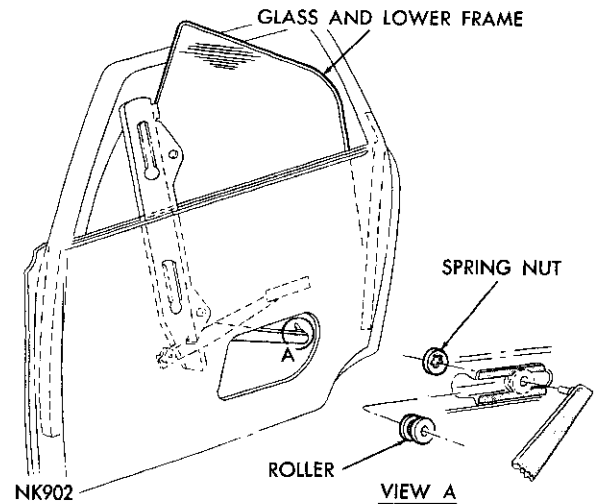

Fig. 68—Rear Door Glass Adjustment
(1) Run the window up to approximately $\frac{1}{8}$ inch below the door frame.
(2) Adjust the regulator pivot bracket (Fig. 68) so the gap between the top of the glass and door frame is the same along the entire length. To raise the front of the glass, lower the front of the pivot bracket and to lower the front of the glass, raise the front of the pivot bracket.
(3) On manual operated regulators, run the window down so the top of glass is even with or slightly below the belt line.
(4) Position the stop on the regulator plate against the stop on the regulator sector and tighten the nut.
(5) Operate the window and inspect the alignment